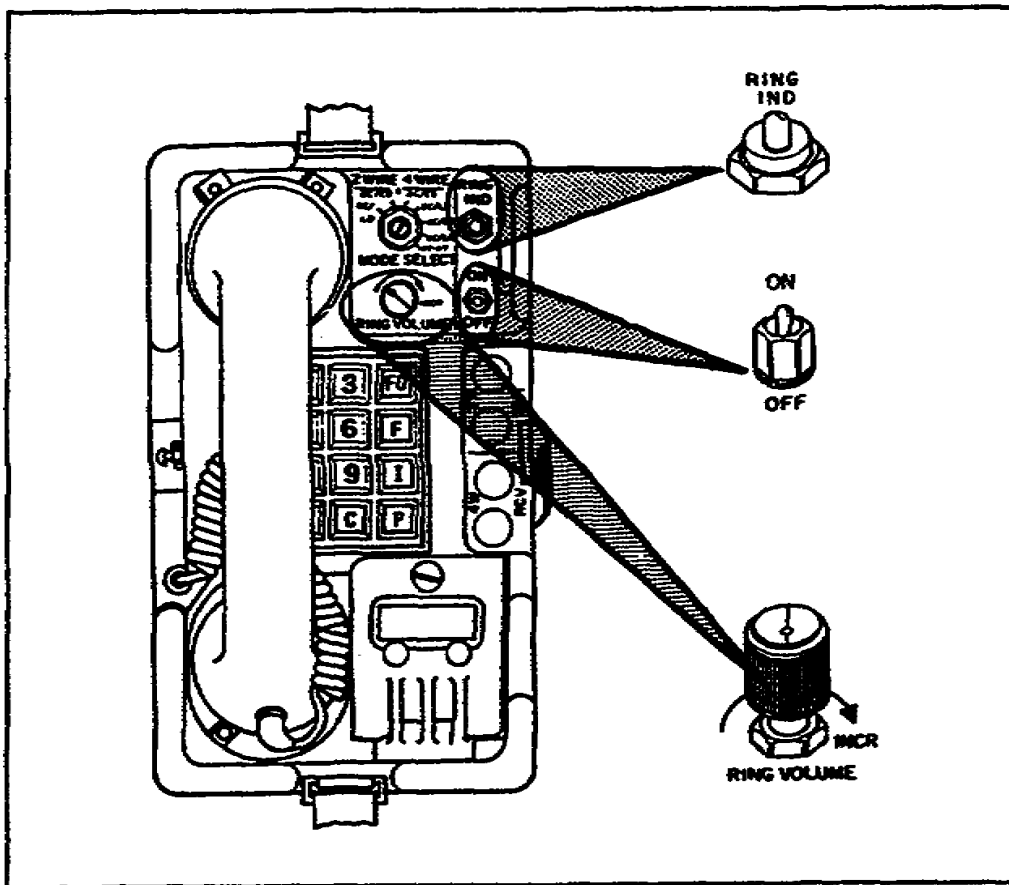

Figure 1-11. Ringer controls.
f. The LED RING indicator lamp is controlled by the ON-OFF switch and will glow when a ringing signal is received. (See Figure 1-11.)
- g. The ON position of the ON-OFF LED switch will allow the LED RING indicator lamp to glow when a ringing signal is received; OFF will disconnect the lamp. (See Figure 1-11.)
- h. The RING VOLUME control controls the volume of the tone ringer. (See Figure 1-11.)